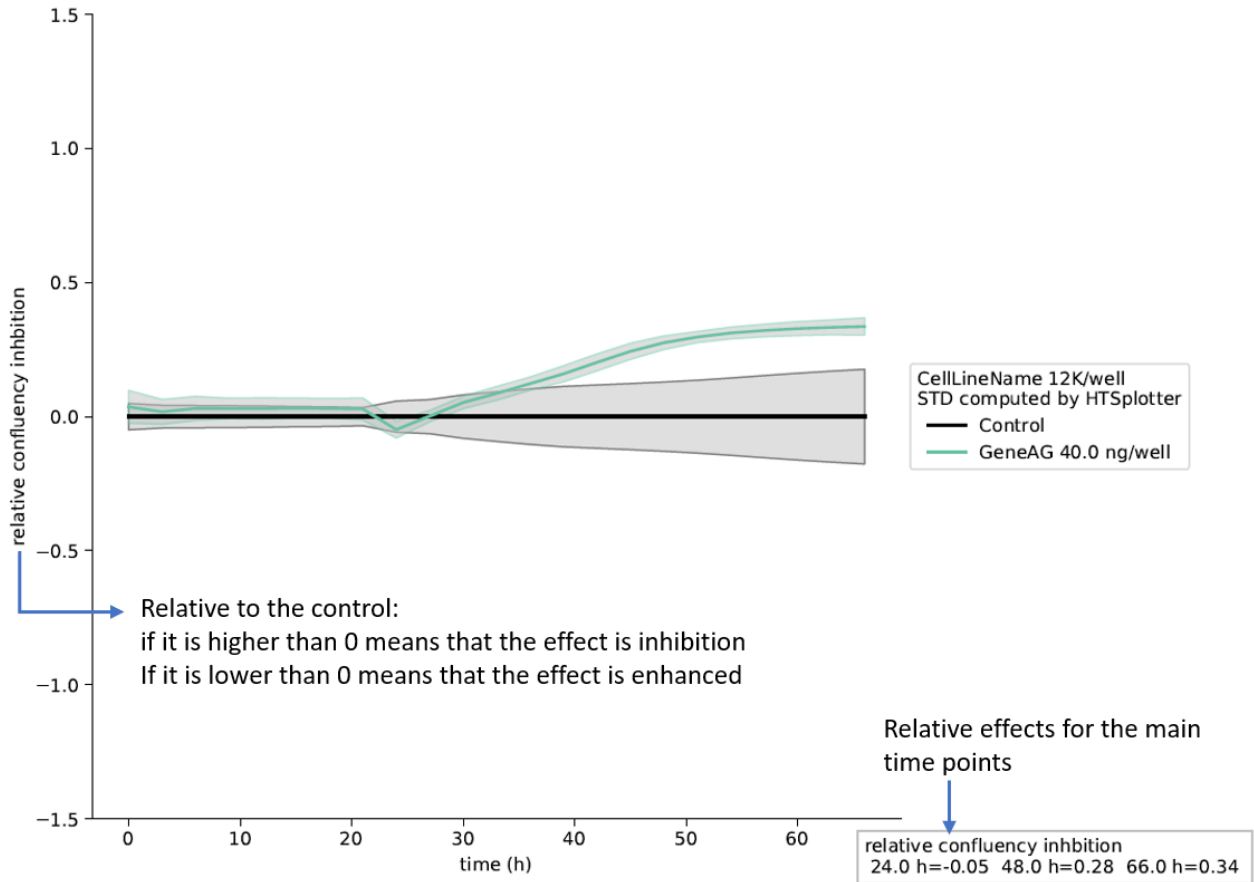
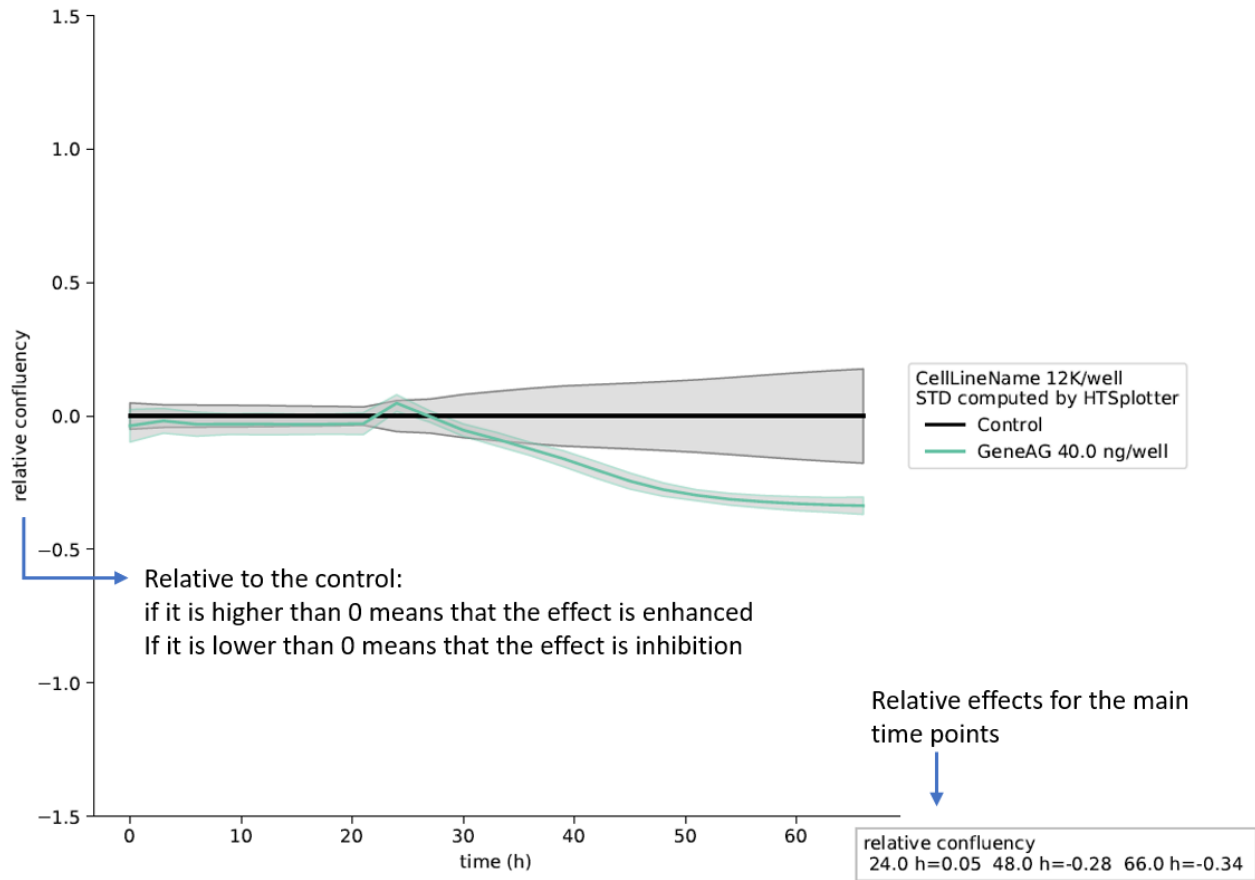

Figure 38: XY-plot with the inhibition effect of GeneAG. A summary with the relative inhibition effect is shown for the main time points.
Figure 39: XY-plot with the effect of GeneAG. A summary with the relative condition effect is shown for the main time points.
- XY-plot for each perturbagen, inhibition Figure 38 or enhanced Figure 39.